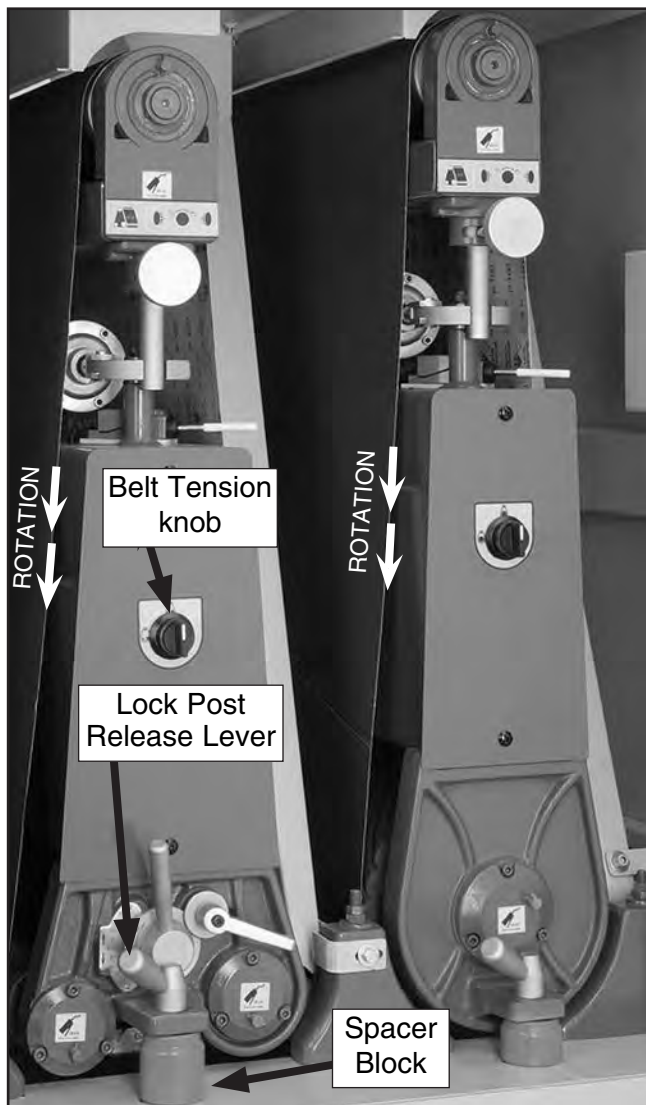

Figure 13. Components used when changing a sanding belt.
2. De-activate the belt tension piston by turning the belt tension knob (**Figure 13**).
3. Remove the lock post release lever (**Figure 13**) by turning it counterclockwise $\frac{1}{2}$ turn and pulling it up and out of the mounting hole.
4. Remove the spacer block (**Figure 13**).
5. Making sure the rotation arrows on the sanding belt point the same direction as those shown in **Figure 13**, install the sanding belt by starting first on the upper roller, and then the lower roller.